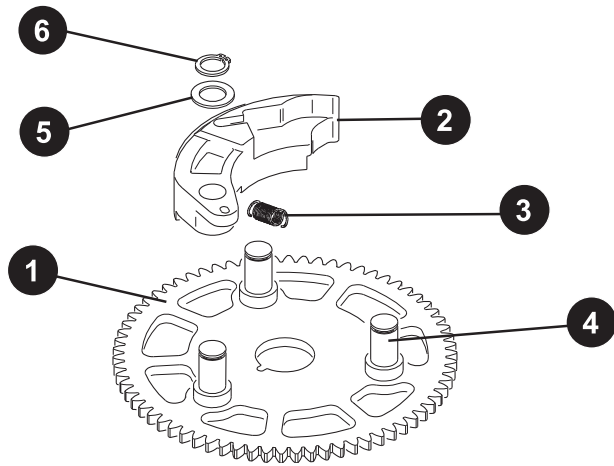

Fig. 55
- ⇒ Remove the 3 shaft circlips (Item 6) and the adjusting washers (Item 5) beneath them with a suitable pair of pliers, see Fig. 55.